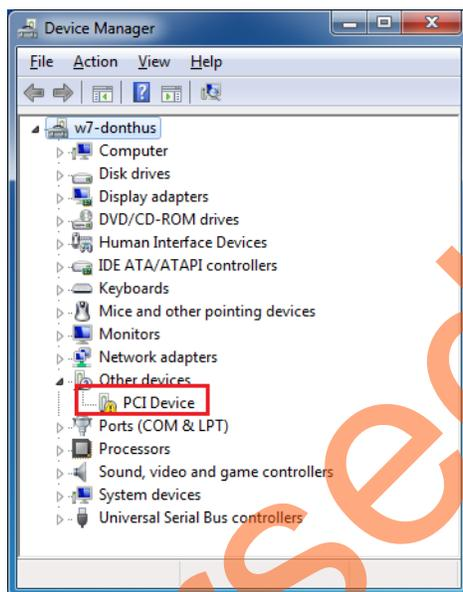
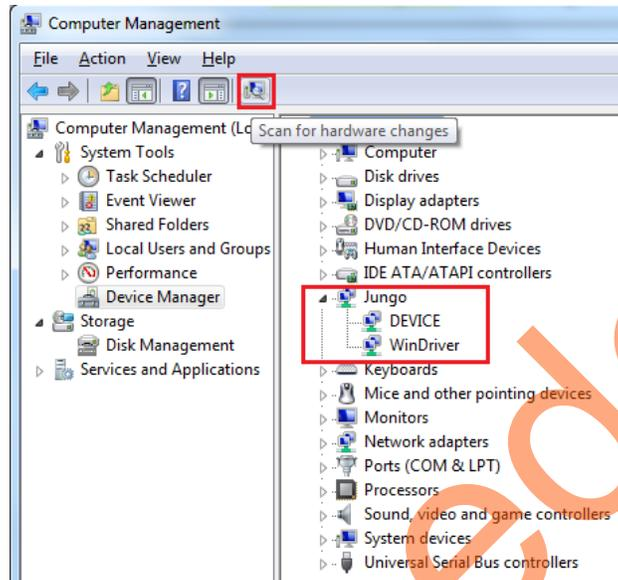

Figure 8 • Device Manager - PCIe Device Detection
Figure 13 • Device Manager - PCIe Device Detection
- Power on the host PC and check the host PC's **Device Manager** for **PCIe Device**. It will be similar to Figure 8. If the device is not detected, power cycle the SmartFusion2 Security Evaluation Kit and click “scan for hardware changes” (as shown in Figure 13 on page 17) in **Device Manager**.
- If the host PC has any other installed drivers (previous versions of Jungo drivers) for the SmartFusion2 PCIe device, uninstall them and make sure that the PCI Device is displayed in the Device Manager window as shown in Figure 8.
1. Check the host PC **Device Manager** for the drivers. It will be similar to Figure 13. If the device is not detected, power-cycle the SmartFusion2 Security Evaluation Kit and click **scan for hardware changes** in **Device Manager**.